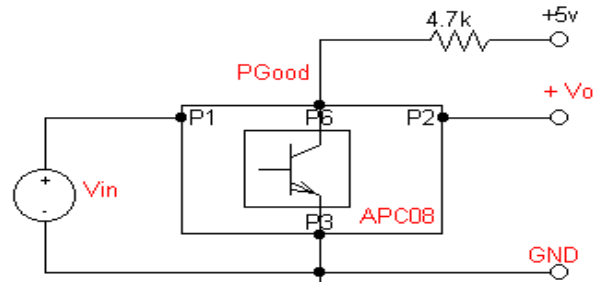

Figure 6. PGood setup.
8. Refer to Figure 6 for the PGood configuration.
PG pin provides an output signal indicating the  $V_{out}$  is operational (TTL logic signal). It can sink current up to a ma: of 5mA and can have a maximum external pull-up voltage of 6V. Please see recommended setup shown on Figure 6.